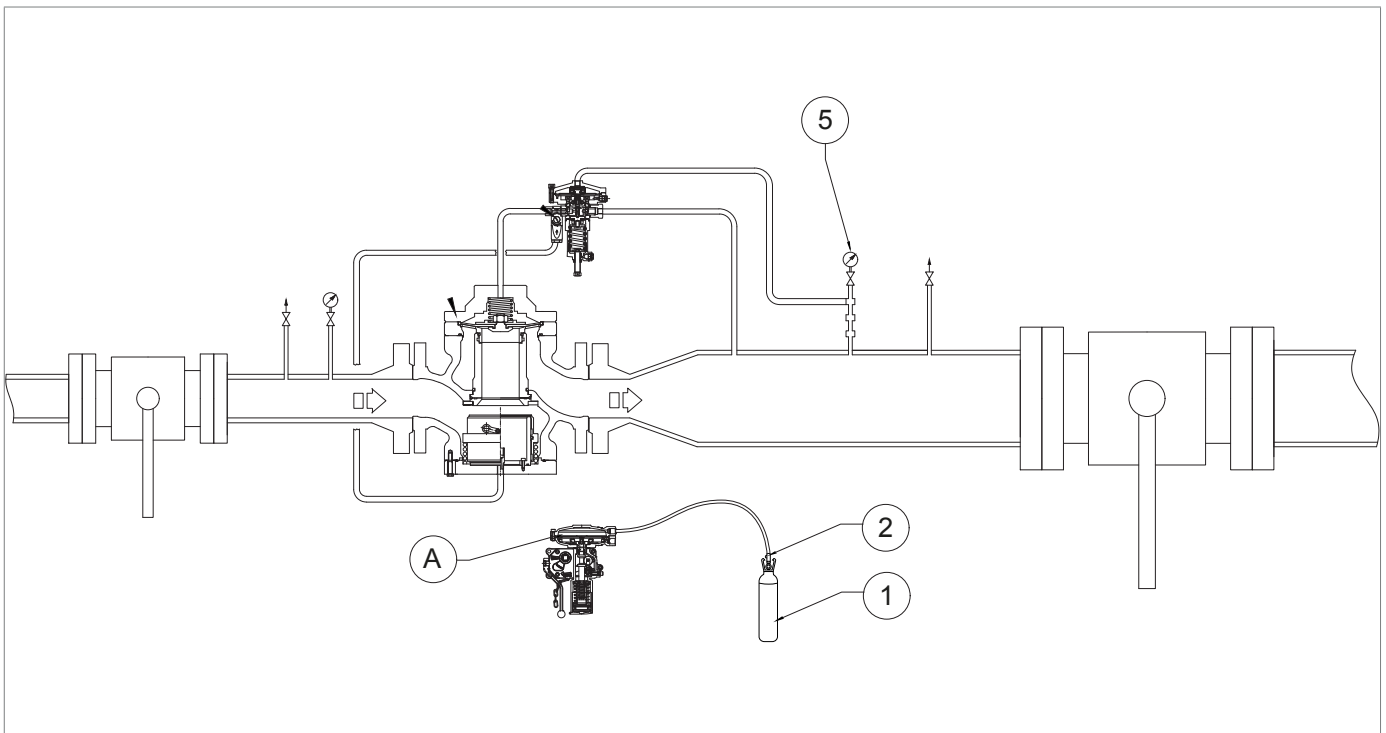
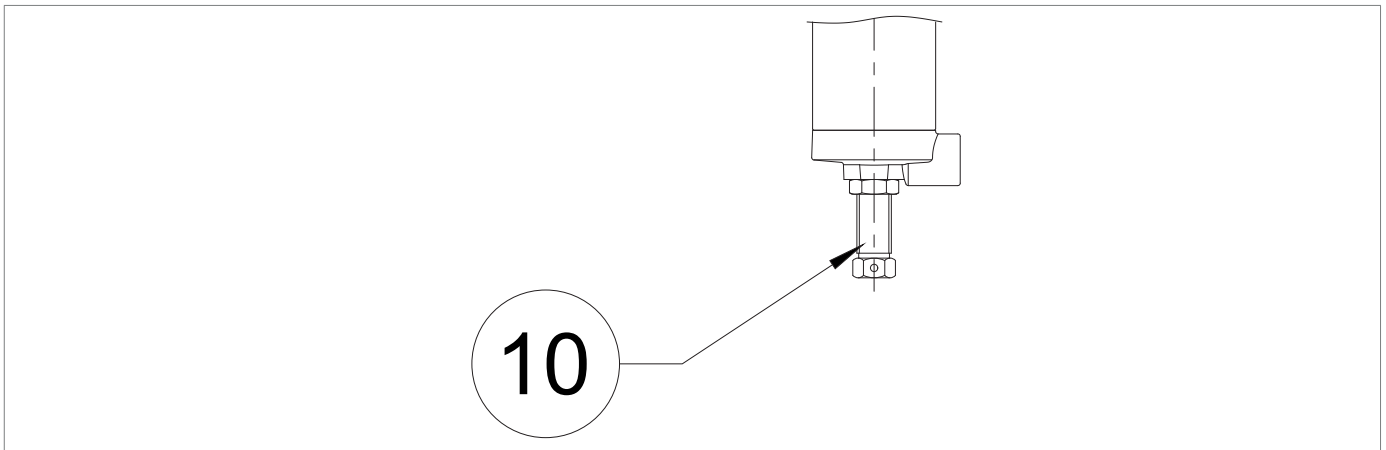

Fig. 8.30. APERVAL with built-in SA shut-off valve and external pressure source
Fig. 8.32. Calibration of 300, 200 series pilots and M/A accelerator valve
Turn the adjusting screw (Fig. 8.32, ref. 10) on the pilot (3) anti-clockwise to relieve the calibration spring until the regulator trips.
17	<p>Tighten the adjusting screws (Fig. 8.32, ref. 10) and the fixing nuts of the pilots (3, 7) and the M/A accelerator valve (12).</p>
9	a - FOR INITIAL COMMISSIONING OF THE REGULATION LINE If the pressure downstream (Dp) is not at the required calibration value, proceed as follows: <ul style="list-style-type: none"> value of the downstream pressure (Dp) is lower than the required calibration value: load the pilot calibration spring (2) by turning the adjustment screw (Fig. 8.32, ref. 10) clockwise value of the downstream pressure (Dp) is higher than the required calibration value: unload the pilot calibration spring (2) by turning the adjustment screw (Fig. 8.32, ref. 10) clockwise b - AFTER MAINTENANCE OF THE REGULATION LINE <ul style="list-style-type: none"> load the pilot setting spring (2) by turning the adjustment screw (10) clockwise to increase the regulator pressure value (1)
1	<p>Increase the downstream pressure to the start value by turning the adjustment screw (Fig. 8.32, ref. 10) on the pilot clockwise.</p> <div style="border: 1px solid black; padding: 5px;"> <p> NOTICE!</p> <p>Check the tripping pressure value of the slam-shut valve indicated on the downstream pressure gauge (Fig. 8.30, ref. 5).</p> </div>
1	<p>Increase the downstream pressure to the threshold value by connecting an external pressure source (Fig. 8.30, ref. 1) to the pressure switch sensing line.</p> <div style="border: 1px solid black; padding: 5px;"> <p> NOTICE!</p> <p>Check the tripping pressure value of the slam-shut valve indicated on the downstream pressure gauge (5).</p> </div>
4	Close the additional drain cock (Fig. 8.30, ref. 2).
7	Close the additional drain cock (Fig. 8.30, ref. 2) and disconnect the external pressure source (Fig. 8.30, ref. 1).
2	Turn the adjustment screw (Fig. 8.32, ref. 10) of the pilot anti-clockwise to decrease the downstream pressure (Dp) to the minimum pressure required for the slam-shut valve to operate.